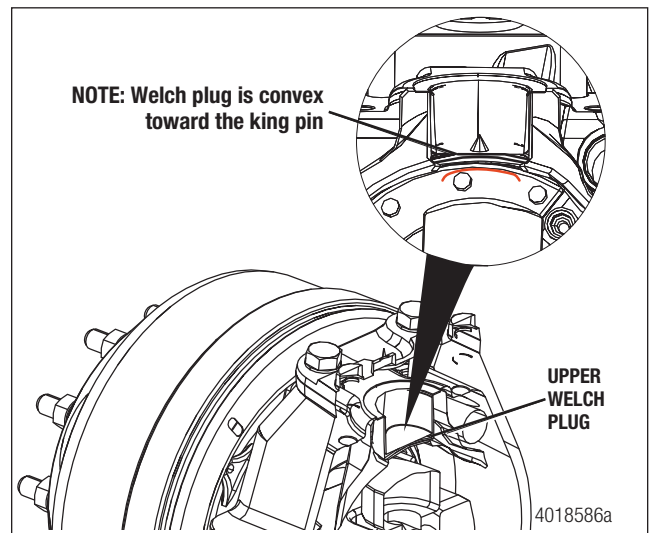
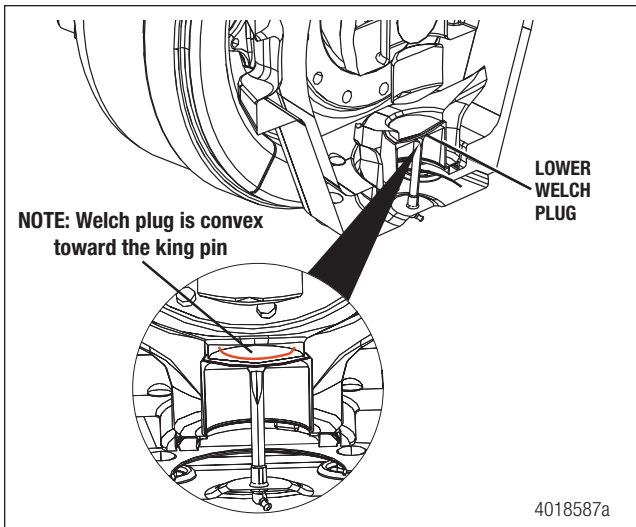

Figure 8.2
Figure 8.3
4. Place the welch plug in the socket bore so the convex side will be toward the king pin. If the welch plug is facing the wrong direction, grease from the fitting will not reach the king pin bushing and thrust bearing. Figure 8.2 and Figure 8.3.